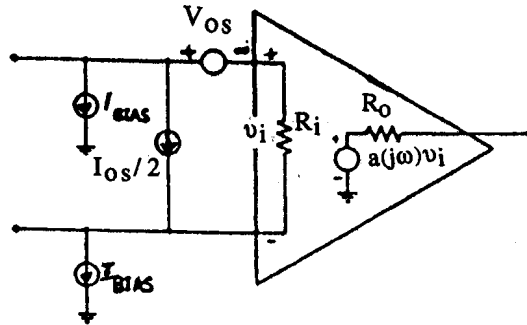
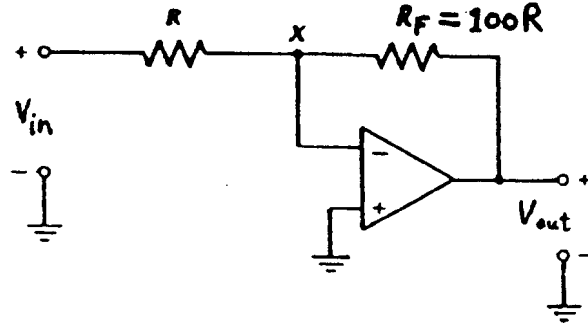
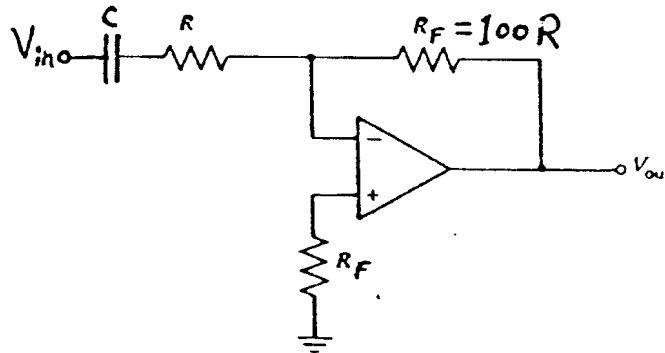

Figure 2. Equivalent circuit for the non-ideal op amp.
Figure 6. A basic op amp gain circuit
Figure 7. Op amp gain stage with D.C. error nulling
Since differential amplifiers form the input stages of operational amplifiers, mismatch effects such as  $V_{OS}$  and  $I_{OS}$  (see lab 4) also apply to the 741 op amp. An equivalent circuit for the operational amplifier including these non-ideal D.C. effects is shown in Figure 2.
$V_{OS}$ ,  $I_{OS}$ , and  $I_{BIAS}$  (see figure 2) will cause D.C. errors in op amp circuits. For example, the circuit in Figure 6 will give a gain  $|v_{out}/v_{in}|=100$ , but will also amplify  $V_{OS}$  by 101 (show that this is true).
These D.C. offset errors can be minimized in many ways. For example, the multiplication of  $V_{OS}$  can be eliminated by A.C. coupling the input, and the effect of  $I_{BIAS}$  can be minimized in Figure 6 by placing a resistor in series with the non-inverting input terminal (see figure 7).
- 1) Build the amplifier circuit shown in Figure 6 (with  $R=1\text{ k}\Omega$ ). Measure  $V_{OUT}$  with  $V_{IN}=0$  volt. This  $V_{OUT}$  is produced by the D.C. sources shown in Figure 2. Now add C and another resistor of value  $R_F$  as shown in Figure 7 (with  $R=1\text{ k}\Omega$  and  $C=0.047\text{ }\mu\text{F}$ ). Again, measure  $V_{OUT}$  with  $V_{IN}=0$  volt. How has the D.C. output changed? Why?
- 2) For the circuit in Figure 7, compute and select  $R$  so that the midband A.C. input resistance is larger than  $4\text{ k}\Omega$ . Calculate and select capacitor value  $C$  so that the circuit will amplify signals above  $400\text{ Hz}$  with gain  $= 40\text{dB} \pm 3\text{dB}$  (a midband gain of 100). (Hint: use virtual ground approximation). Build your circuit using standard resistor and capacitor values. Measure and plot the A.C. gain  $v_{\text{out}}/v_{\text{in}}$  (in dB) vs. log frequency for your circuit from  $f=10\text{Hz}$  to  $1\text{MHz}$ . How do the low and high  $-3\text{dB}$  corner frequencies agree with expected values?
- 3) Output Swing. For the circuit shown in Figure 7, with an input of  $1\text{ kHz}$ , increase the amplitude of  $V_{\text{in}}$  until output  $V_{\text{out}}$  clips. What are the positive and negative clipping limits? Compare measured values with data sheets values.